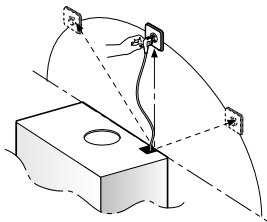

Fig.2
in Fig.1. When mounting align the front of the rangehood to the door of the cupboard and regulate the L wall spacer through the screws marked P (Fig. 2). The rear of the appliance must then align with the cupboard.
To transform the rangehood from the extraction version to the re circulating one ask your supplier for an activated carbon filter. The activated carbon filter cleans the air of the room. This filter is not washable or re-usable and must be substituted at least every 4 months. Saturation of the activated carbon depends on how often the appliance is used, the type of kitchen and how regularly the grease filter is cleaned. The filter must be fitted to the motor in the centre of the fan grille by twisting it by 90 degrees until it is gripped securely. Remove the grill (G) fig. 2 to carry out this operation. The clean air is returned into the room through a connecting tube passing inside the cupboard and connected to the ring B (Fig.1).